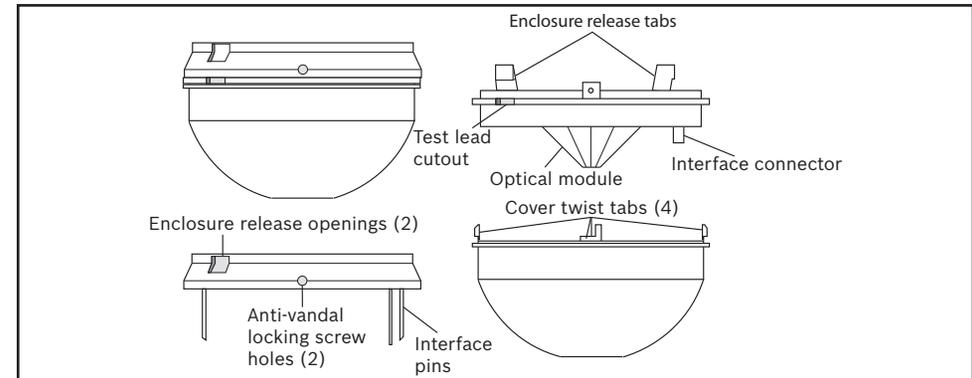

Figure 2.2: Opening cover
1. Remove the base from the enclosure by pressing the two enclosure release tabs inward while lifting the enclosure away from the base. Refer to Figure 2.2.